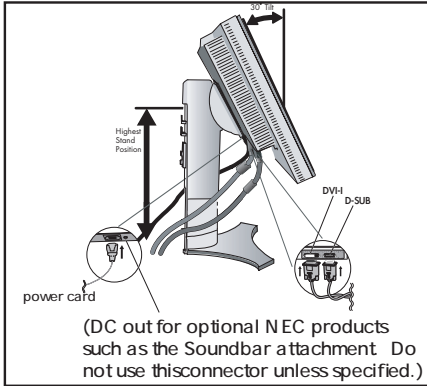

Figure 4
3. With one hand, grip the top of the display by the handle using the other hand to grip the bottom. Tilt the LCD panel backwards to a 30-degree angle and lift up to the highest position. Connect all cables to appropriate connectors (Figure 4).